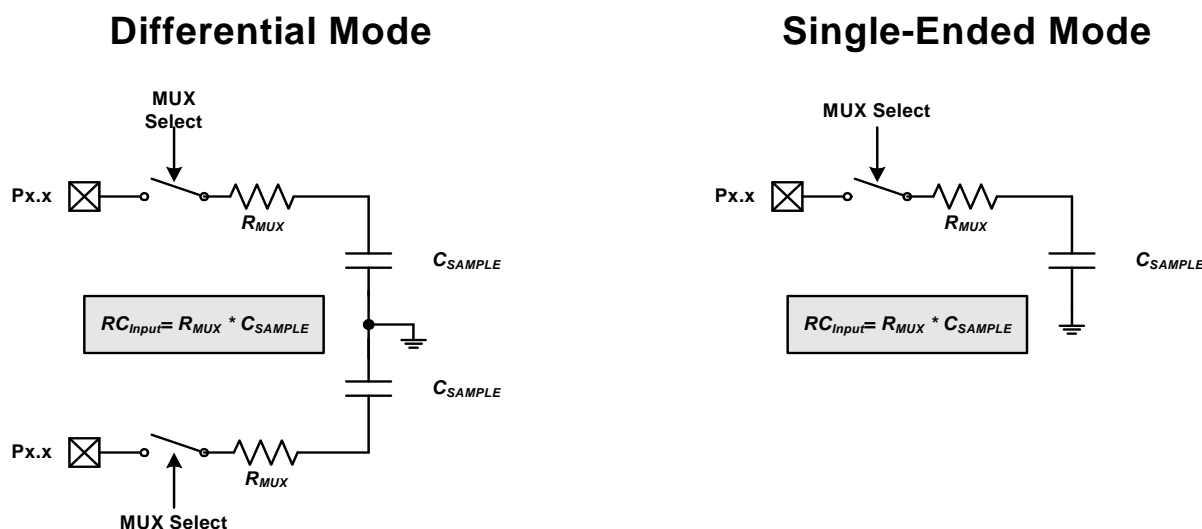

Figure 9.3. ADC0 Equivalent Input Circuits
Figure 9.3 shows the equivalent ADC0 input circuit. The required ADC0 settling time for a given settling accuracy (SA) may be approximated by Equation 9.1. See Table 7.10 for ADC0 minimum settling time requirements as well as the mux impedance and sampling capacitor values.